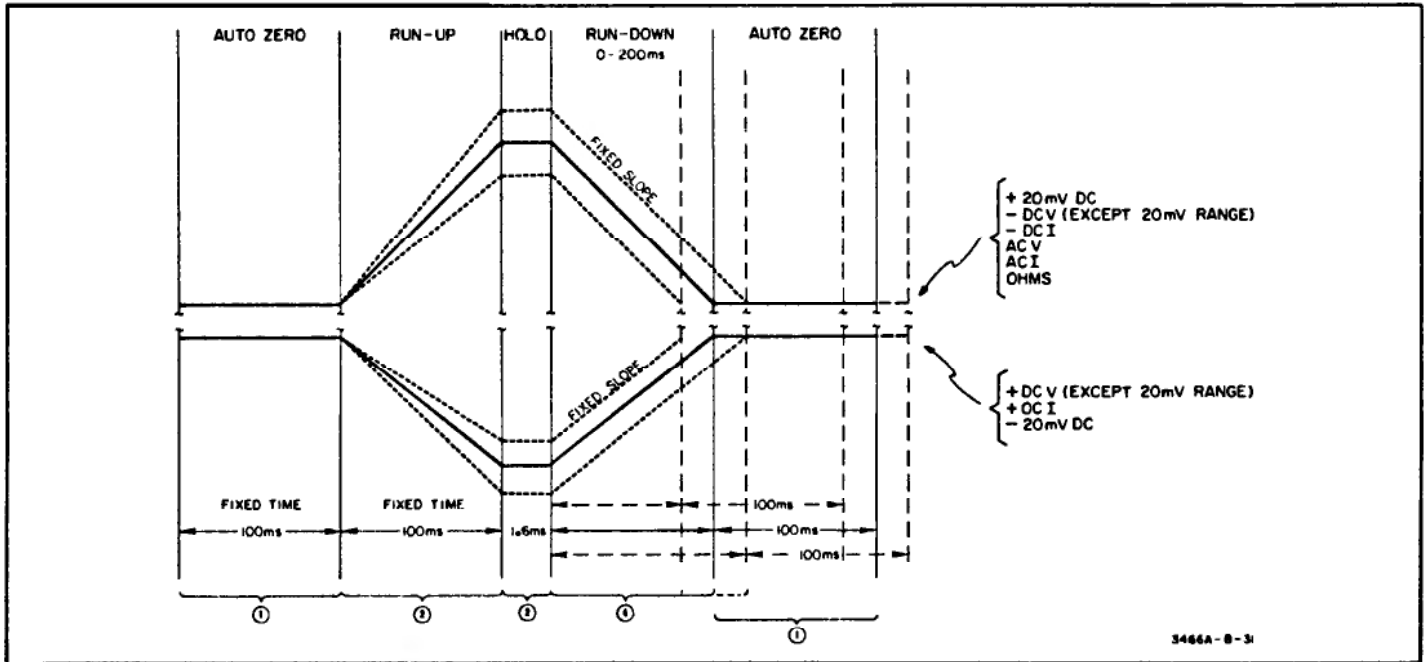

Figure 8-14. Integrator Output
8-61. There are four basic conditions (1 2 3 4) for a complete measurement cycle as shown in Figure 8-14. These conditions exist for each of the seven Multimeter functions.
8-63. At the beginning of run-up (2) a dc voltage proportional to the Multimeter input (2) is applied across one of the run-up resistors (depending on the Multimeter function selected). This run-up voltage is integrated across C_{402} . The polarity of the Integrator output is opposite to the run-up voltage polarity. The run-up voltage polarity is dependent upon the Multimeter function and range selected. Figure 8-14 shows the Integrator output for three different input levels and the polarity for different functions and ranges.